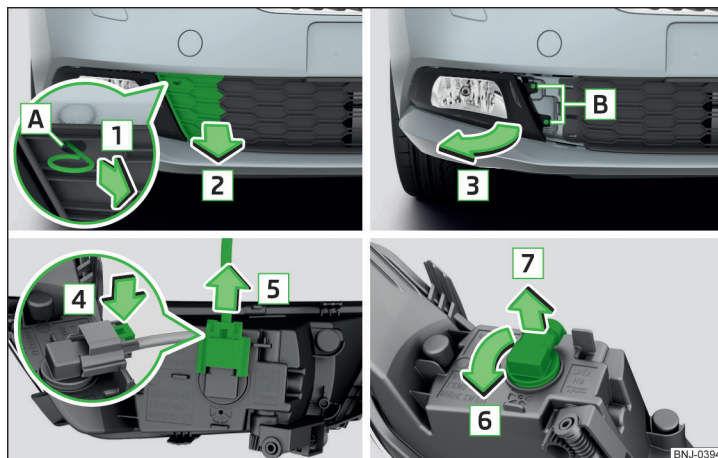

Fig. 290 Removing the number plate light / replacing the bulb
- Insert the clamps for removing the full wheel trims into opening A » Fig. 290.
- Replace the fog light by inserting it in the opposite direction of the arrow **3** » Fig. 290 and tighten.